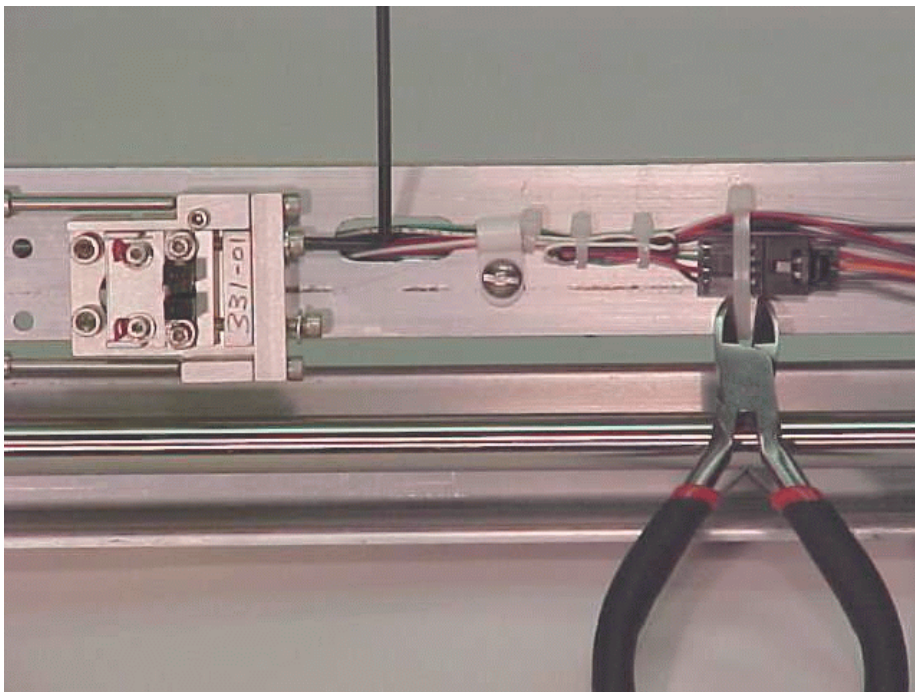

Figure 4-12. Detector Switch Removal #1
Reference Figures 4-12, 4-13 and 4-14.
4. Carefully cut the wire ties holding the plug for the inoperative switch and remove any 'hoop style' anchors necessary. Disconnect the plug from the main harness by releasing the latch and separating the plug. (Figure 4-12)
5. Remove the mounting/adjustment screws holding the optical switch to the switch pad. (Figure 4-12)